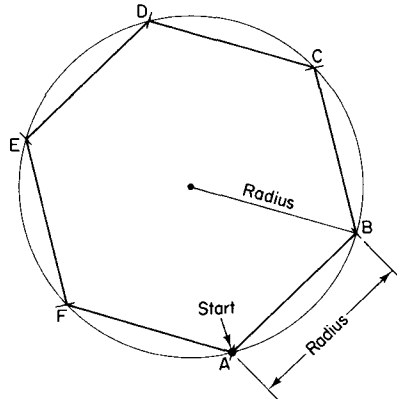

Fig. 3.18
- (1) Draw a circle whose diameter is equal to the distance across the corners of the hexagon.
- (2) Mark any point on the circumference of the circle. Using the marked point as the first centre and keeping the compasses at the radius of the circle, mark off 6 points on the circumference. Join the points together to complete the hexagon (Fig. 3.18).